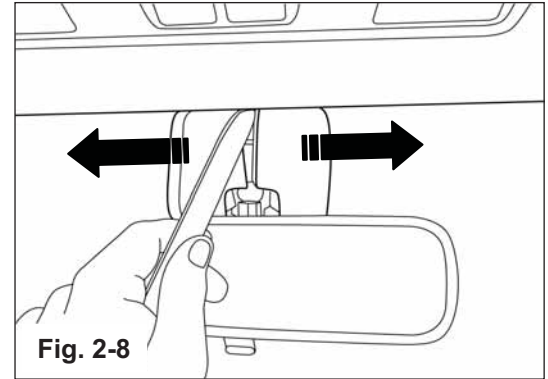

Fig. 2-8
- c) Insert fiberstick in between two halves of rain-sensor cover at the top and pry both halves away from each other. (Fig. 2-8)